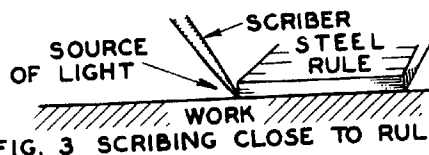

FIG. 3 SCRIBING CLOSE TO RULE
- Set the point of the scribe as close to the edge of the rule as possible by tipping the top of the scribe outward (Fig.3).